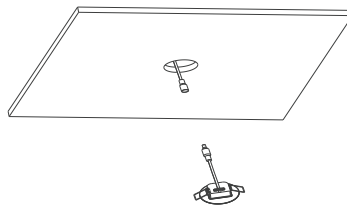

Figure 3-2
2. Create a hole in the ceiling with a diameter between 2" and 2-3/8", then route the indicator cord to the inverter within the junction box (not included) and reconnect the quick connector (refer to Figure 3-2).